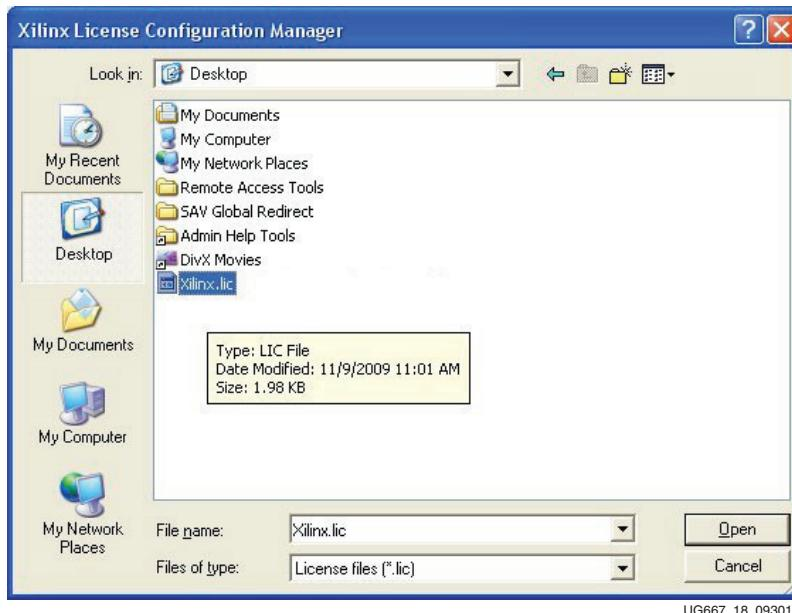

Figure 18: Select the xilinx.lic File
10. Navigate to the location where the Xilinx.lic file was saved and select it. See Figure 18.